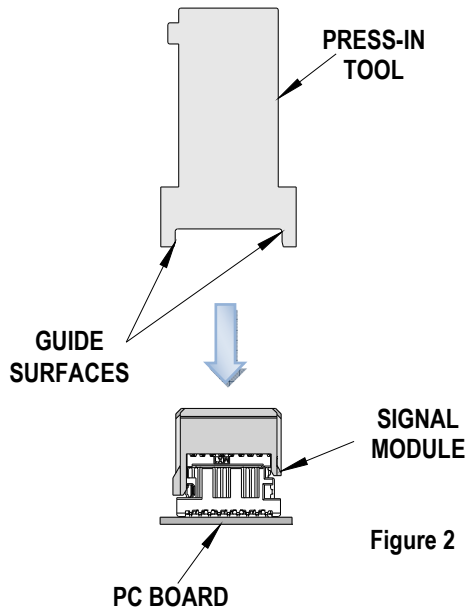

Figure 2
2. Line-up the Press-In tool so that the guide surfaces on the tool are in line with the sides of the vertical Signal module. See Figure 2.